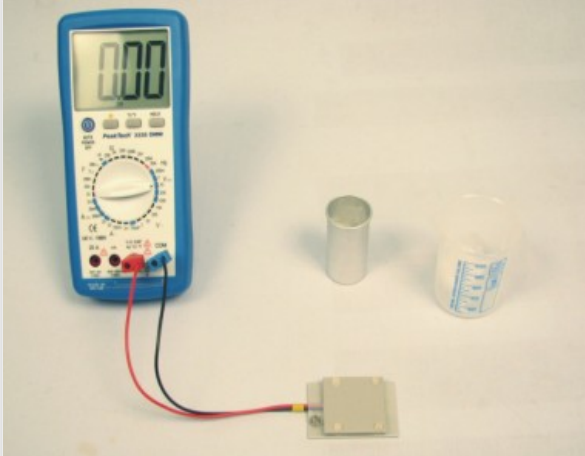

Figure 1
3. Place the thermogenerator on the table so that the larger plate is at the bottom and connect the element to the voltage input of the meter (Fig. 1). Select the DC voltage measuring range 2V-.